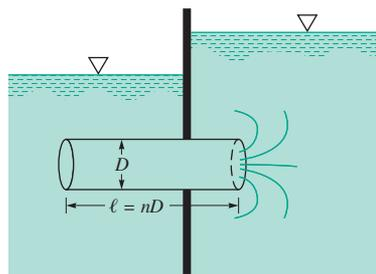

FIGURE P8.49
**8.49** As shown in Fig. P8.49, water flows from one tank to another through a short pipe whose length is  $n$  times the pipe diameter. Head losses occur in the pipe and at the entrance and exit. (See Video V8.10.) Determine the maximum value of  $n$  if the major loss is to be no more than 10% of the minor loss and the friction factor is 0.02.